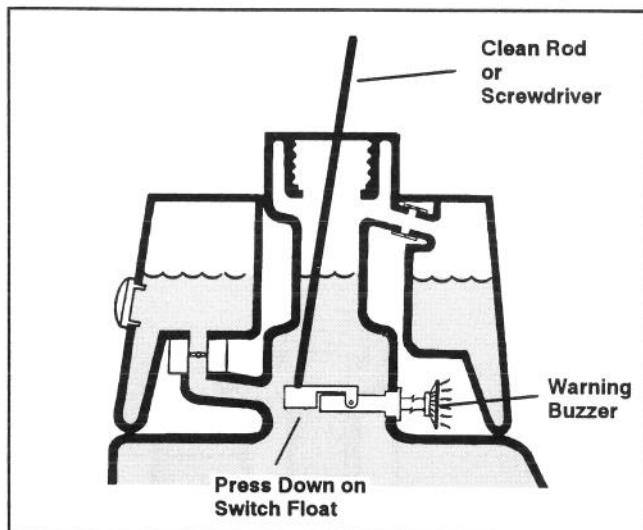

Figure 23
- C. Insert a clean rod or screw driver into tank neck and gently push down on switch float (Fig. 23). Alarm should sound after one second delay.